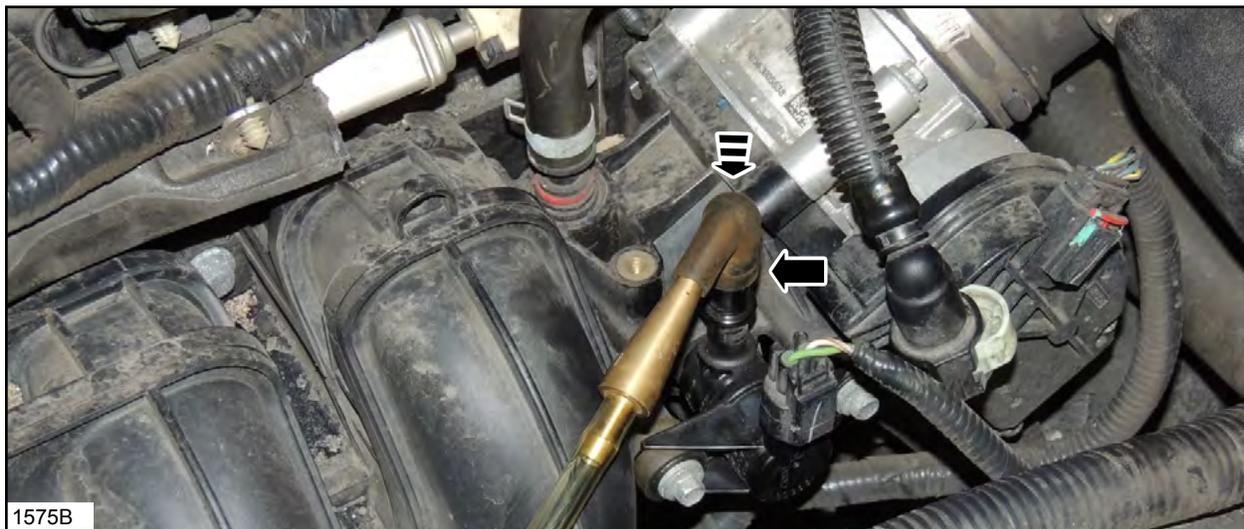

FIGURE 7
3. Using suitable adapters, connect the VACUTEC® Smoke Machine Fuel Evaporative Emission System Tester or equivalent to the port on the CPV. See Figure 7.